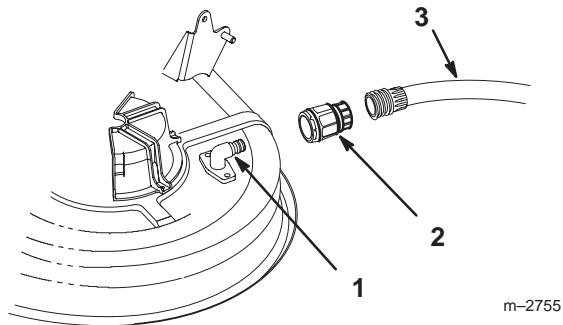

Figure 7
2. Attach coupling to the end of a garden hose and snap onto mower washout fitting, turn water on high (Fig. 7 or 8).